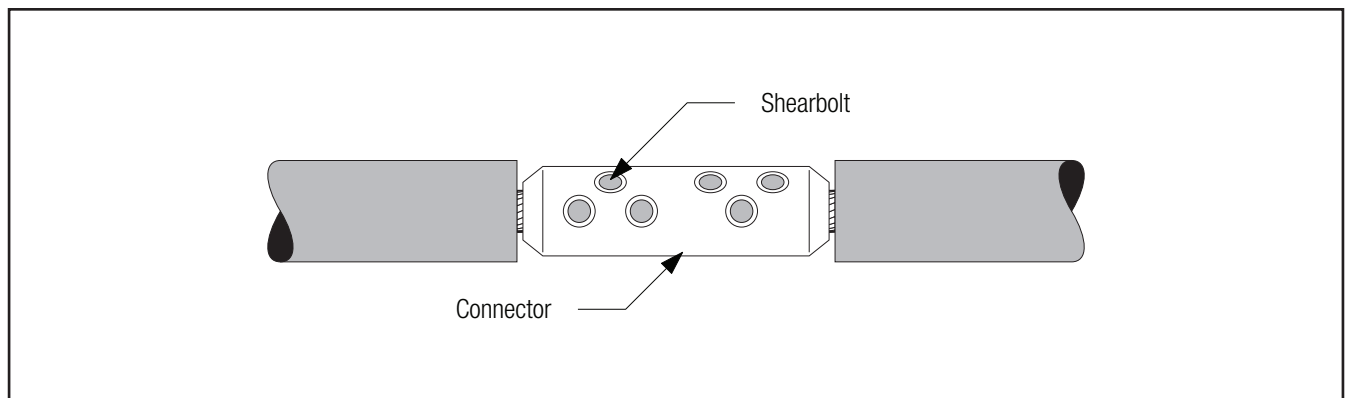

Figure 7
- 3.2 Install 3M Shearbolt Connector QCI 500-1000 according to the instructions included with the connector (*Figure 7*).